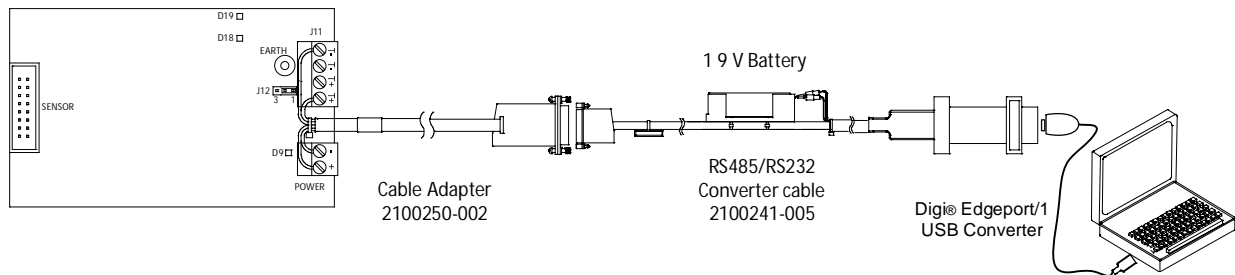

Figure 38: Connecting the laptop to the electronics board
3. Using the correct cable and adapters, connect the laptop to the board (Figure 38).